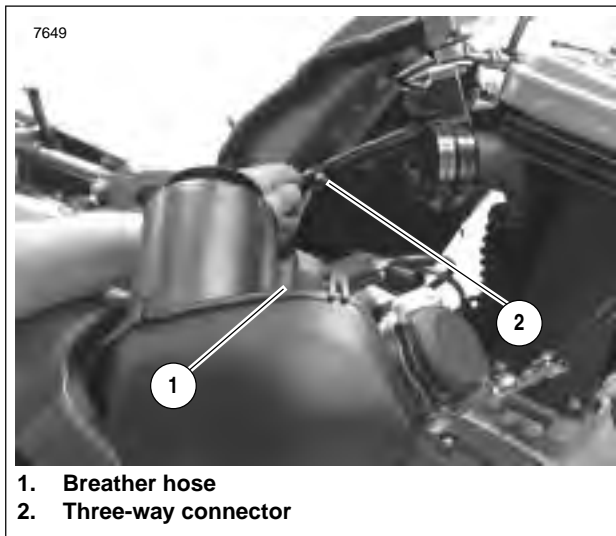

**Figure 3-34. Auto-Enrichener Plug**
23. See Figure 3-34. Connect auto-enrichener plug.